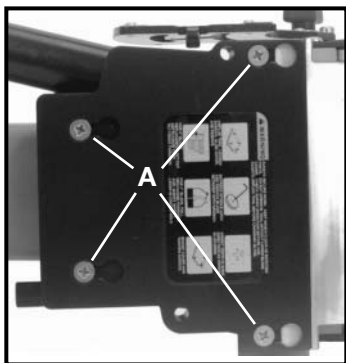

Fig. 10
1. Loosen four blade cover retaining screws (A) Fig. 10, and remove blade cover.